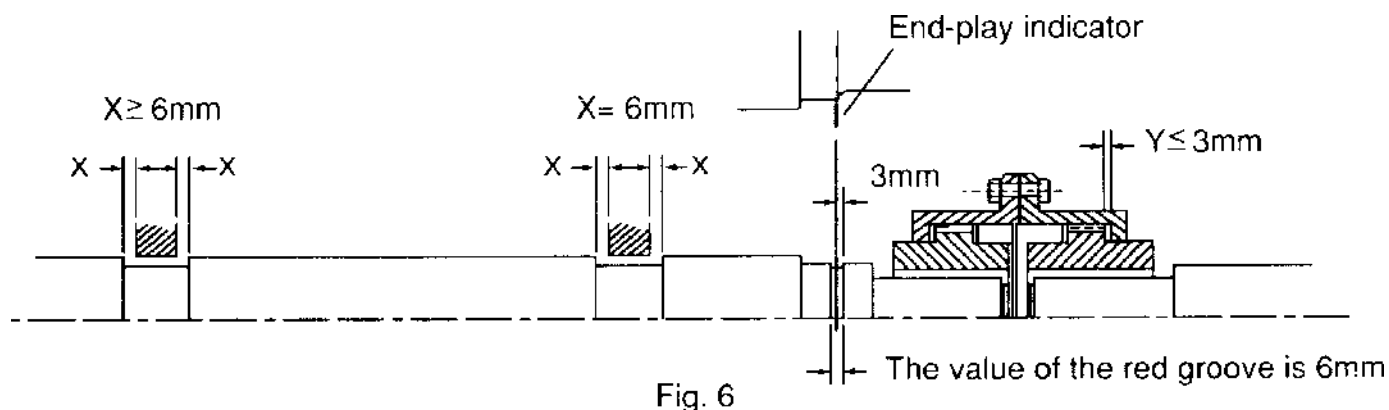

Fig. 6
- Unless otherwise specified, the designed end-play value  $X$  of the groove for TWMC motors in general is within  $6\text{mm}$  (.236 in.) as illustrated in Fig. 6. In essence, the endplay indicator is adjusted to point at the center of the groove or the drive-end shaft shoulder; thus  $X$  equals to  $6 \pm 1\text{mm}$  or so, and the endplay value ( $Y$ ) of the couplings should equal or be smaller than  $3\text{mm}$  (.118 in.).